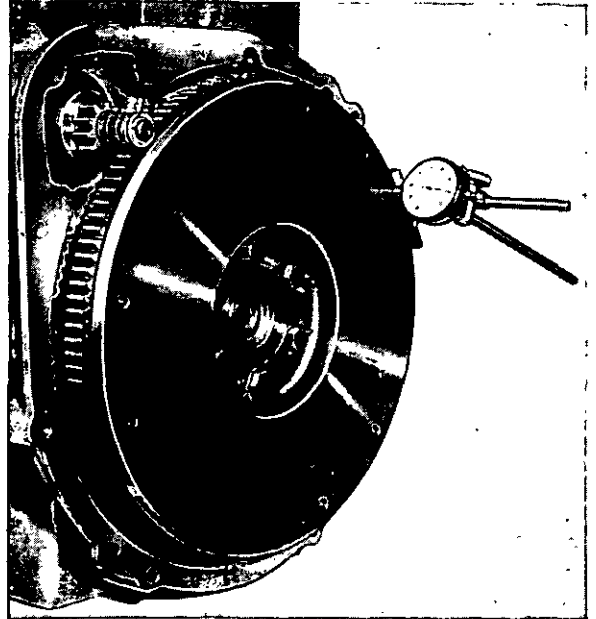

Fig. N.2. Checking Flywheel Face.
- Now adjust the clock gauge so that the plunger is at right angles to the crankshaft flange and rests on the vertical machined face of the flywheel, at the outermost point of the face. Press the crankshaft one way, to take up the end float, and turn the flywheel. The run-out on the flywheel face should be within 0.001 in (0,025 mm) per inch (25,4 mm) of flywheel radius from the crankshaft axis to the clock gauge stylus (Fig. N.2). If not, remove flywheel and check mating faces for burrs and dirt.